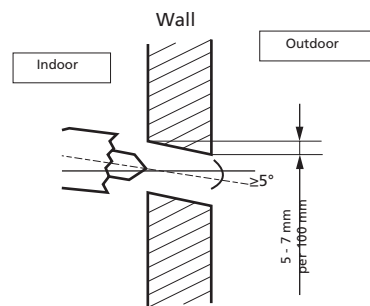

Figure 10
- Determine the positions of the holes according to the diagram detailed in Fig. 9. Drill one (1) hole (≥ 85 mm for S-JA2518 / ≥ 65 mm for S-JA2518) slanting slightly downwards to outdoor side, this will prevent water to come indoors (fig 10).